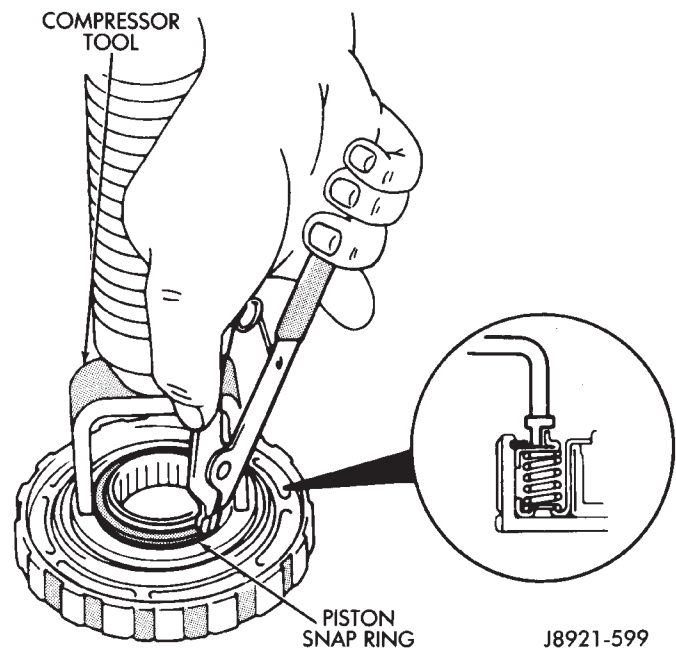
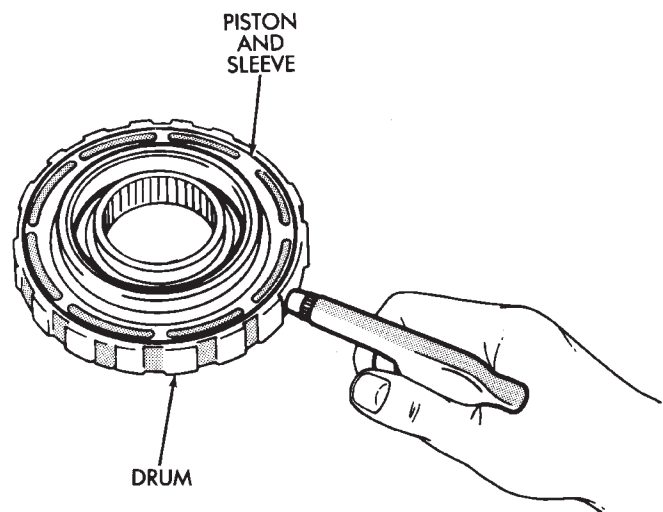

Fig. 4 Removing/Installing Second Brake Piston Snap Ring
Fig. 5 Removing/Installing Piston And Sleeve
(4) Compress piston return springs with shop press and Tool 7538. Then remove piston snap ring (Fig. 4).
(5) Remove compressor tool and remove spring retainer and return springs.
(6) Remove second brake piston and sleeve from drum with compressed air (Fig. 5). Use only enough air pressure to ease piston out of drum.